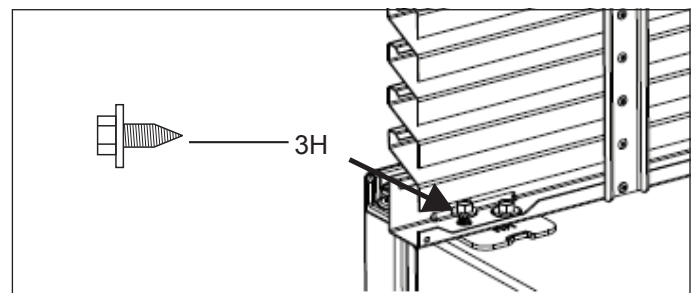

Figure 9
6. a. Remove outer hinge screw common on both sides for a dual installation. (For a single installation this screw is removed in Step 4. Align the top trim and attach with a $\frac{3}{8}$ " socket. Repeat for opposite side. (See Figure 9).